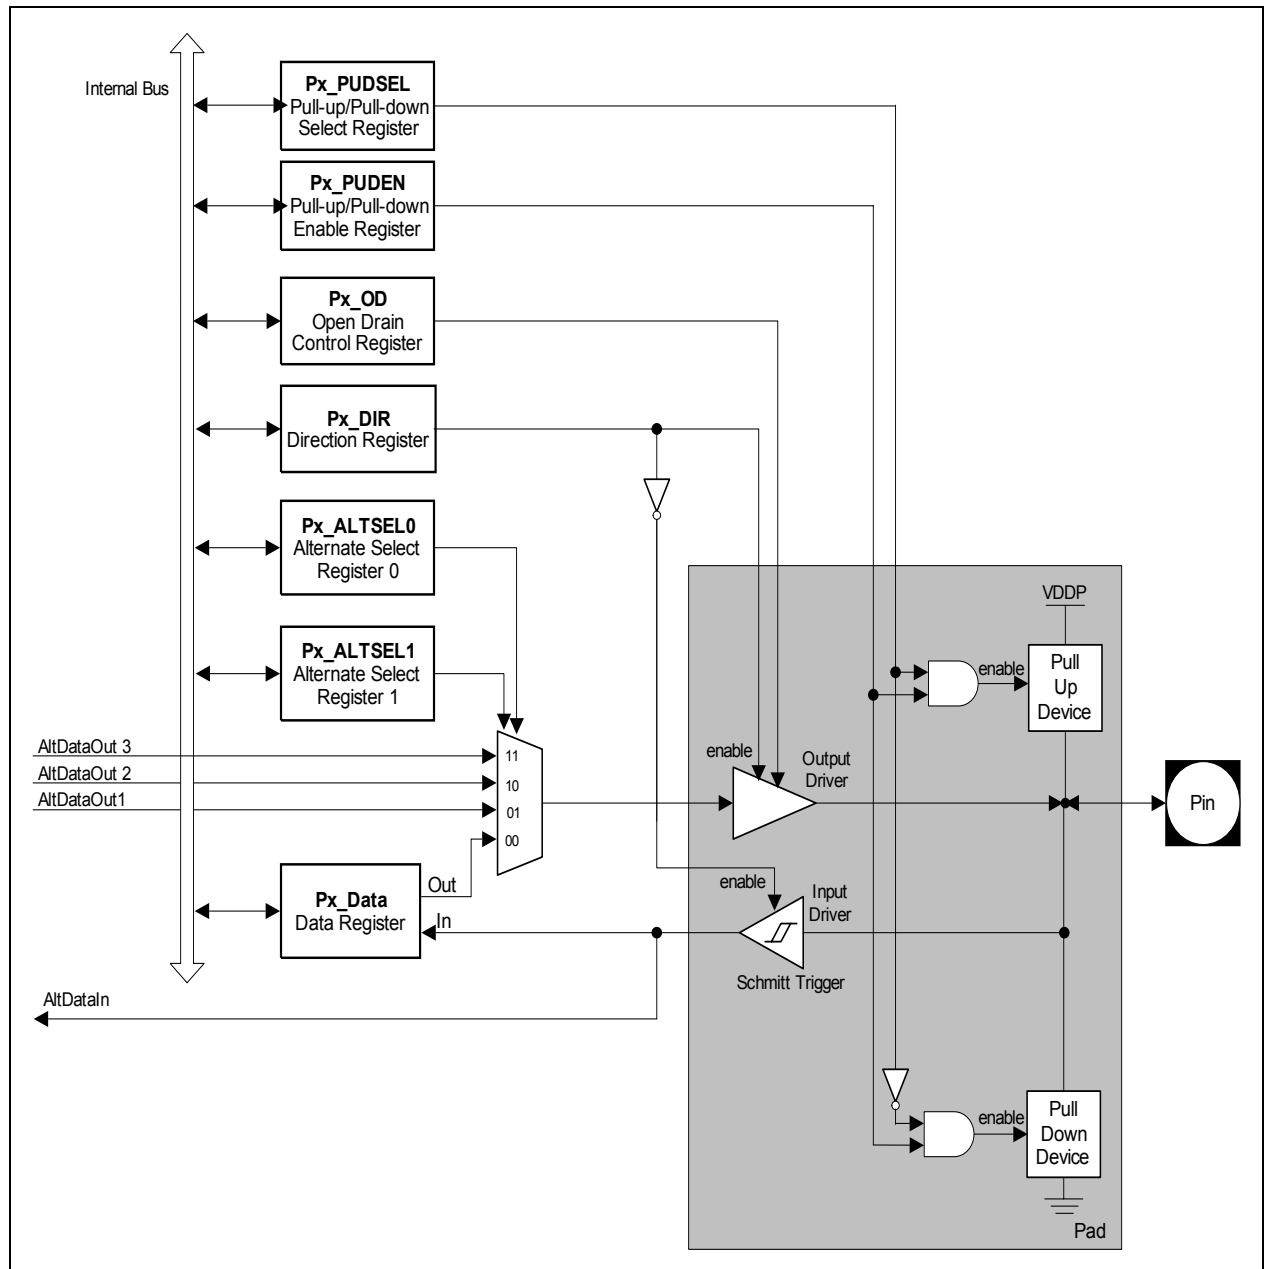

**Figure 19** General Structure of Bidirectional Port
**Figure 19** shows the structure of a bidirectional port pin.